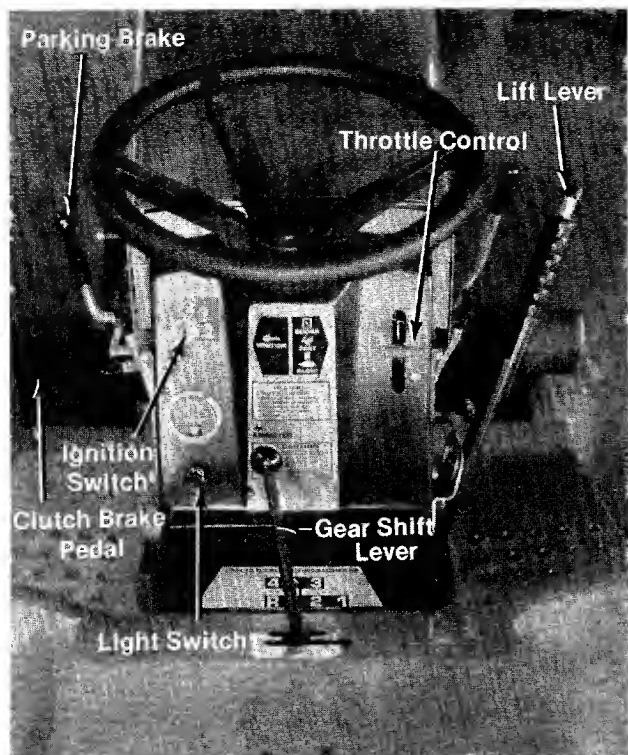

FIGURE 13
**a. Throttle control.** The throttle control is used to regulate the engine speed and choke the engine. The engine should be operated from  $\frac{3}{4}$  to full throttle when operating the cutting deck or snow thrower. (Optional) (See figure 13.)
**b. Gear Shift Lever.** Use the following guide for gear selection. See figure 13.
**d. Clutch-Brake Pedals** Depress both of them all the way down to stop or shift gears. Release pedals slowly to engage. See figure 13.
**g. Ignition Switch.** Turn the switch all the way to the right to engage the starter. As soon as the engine starts, release the ignition key so that the starter is switched off. Turn the key to the left to shut off the engine. See figure 13.
**h. Light Switch.** Pull the light switch out to turn on the lights. The ignition switch must be on to operate the lights. See figure 13.
**i. Ammeter.** The ammeter registers the rate of battery charge or discharge. The ammeter should register on the plus (+) side when the engine is running in the fast position until the battery is completely charged. With a fully charged battery or with the engine idling the ammeter will not show a charge. See figure 13.
Step 2. With the machine set on level ground place the gear shift lever in **NEUTRAL (N)** position. See figure 13.
Step 5. Set the throttle control in the **CHOKE** position. See figure 13.
Step 6. Turn the ignition key to the right to **START** position to start the engine. Allow the key to return to the **ON** position. See figure 13.
To stop the rider from moving forward or backward, depress the clutch-brake pedals. See figure 13.